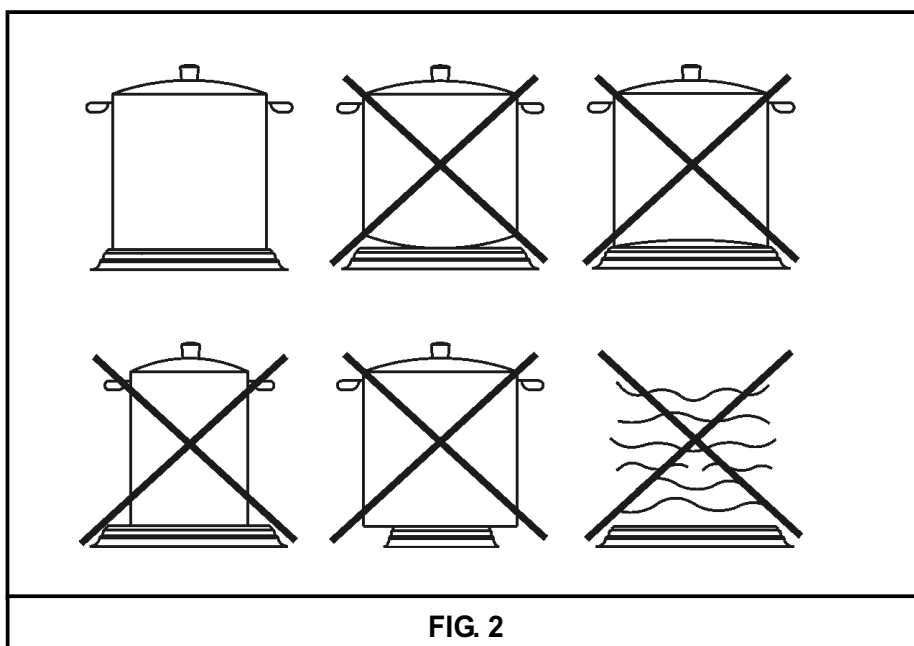

FIG. 2
- *To always use pans with flat and very thick bottoms (see fig. 2).*